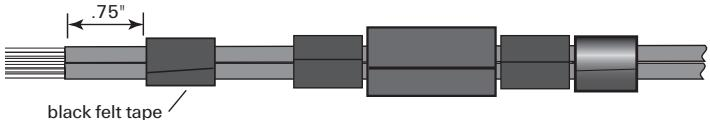

Figure 6: A Closures
- Measure from the end of the ring cut and wrap all cables with two layers of black felt tape, referring to Figure 6 for dimensions. Note that the position of the tape is different for FOSC 450 B, BS, C, and D closures than for FOSC 450 A and FOSC 600 closures.